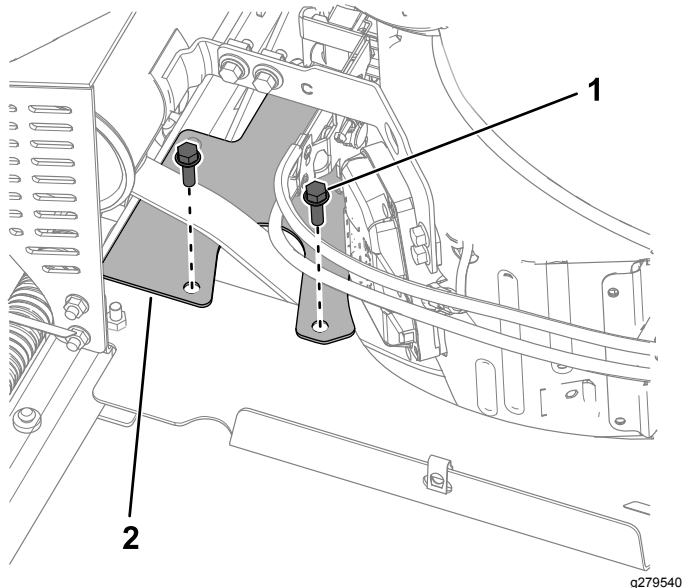

Figure 31
3. Remove the 2 bolts (5/16 x 1 inch) and belt guard (Figure 31).
2. Install the belt guard as shown in Figure 31. Torque the bolts to 20 to 25 N·m (15 to 18 ft-lb).